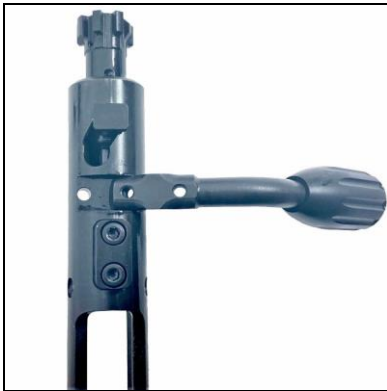

Figure 2
4. With Screws removed, the charging handle will slide out. (Figure 2)